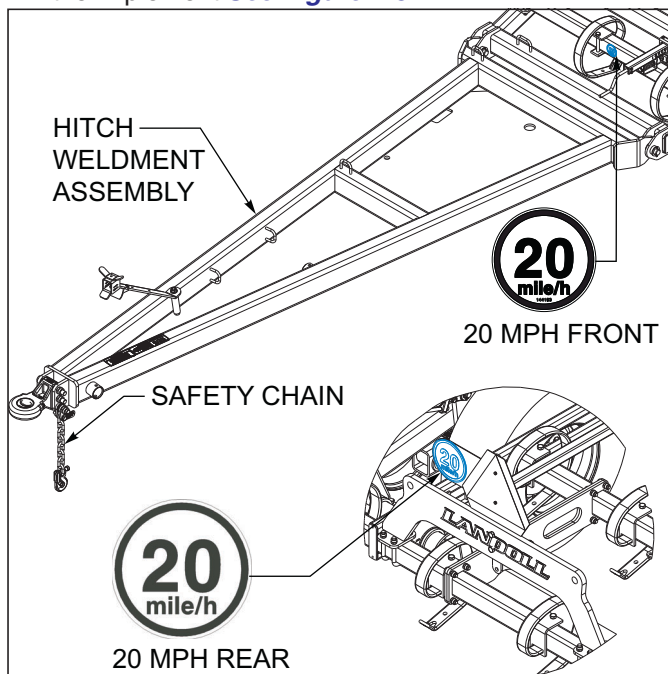

Figure 4-5: Hitch, Speed Identification Symbol, and Safety Chain
2. The Field Cultivator should be transported only by tractor required for field operation. The implement weight should not exceed more than 1.5 times the tractor weight. Unless noted on the implement, maximum transport speed is 20 mph for the implement and is designated on the speed identification symbol located on the front and rear of the implement *See Figure 4-5*.
8. Attach the safety chain to the tractor drawbar, refer to the tractor operator's manual for proper placement, *See Figure 4-5*. Provide only enough slack in the chain for turning. Do not use an intermediate chain support as the attaching point for the chain on the tractor. Do not pull the implement by the safety chain.